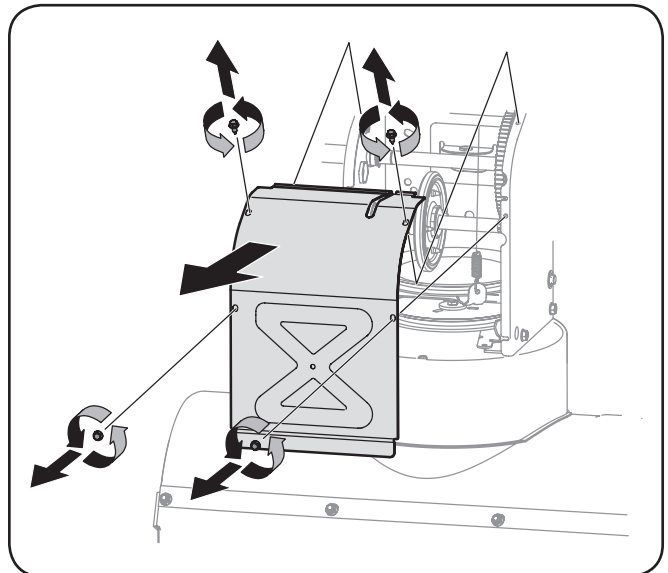

Figure 7-4
3. Remove the frame cover from the underside of the snow thrower by removing the self-tapping screws which secure it. Refer to Figure 7-4.
6. Remove the frame cover from the underside of the snow thrower by removing the self-tapping screws which secure it. See Figure 7-4.
- Remove the frame cover from the underside of the snow thrower by removing four self-tapping screws which secure it. See Figure 7-4.